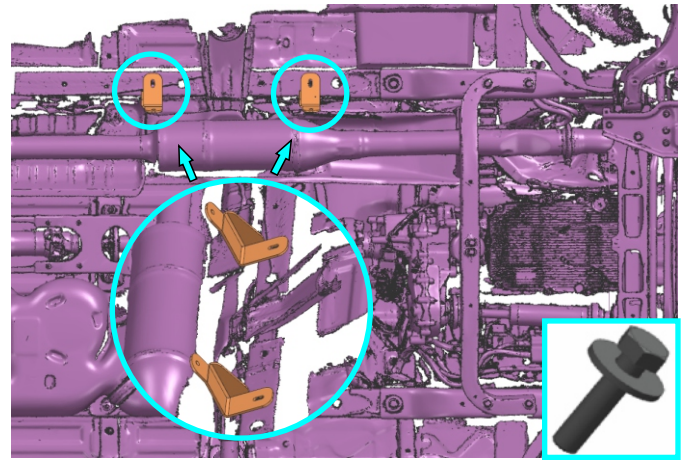

Fig. 2
2. Install 2 right brackets (item 3) using bolts M8x25 and washers M8 (items A,B) as shown in fig. 2